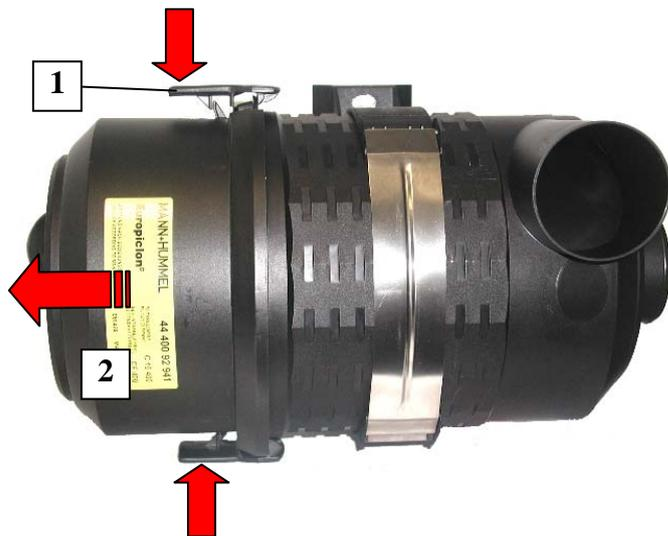

Fig. 4 Removing the bottom housing section
- Unlock the main element by slightly pressing down on the snap-fit wings (1) and remove the bottom housing section (2) (refer to Fig. 4).